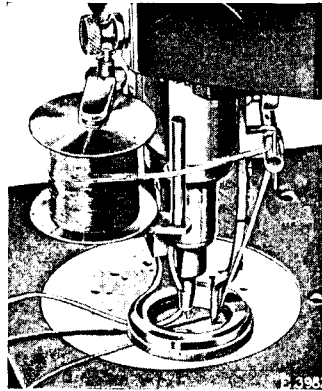
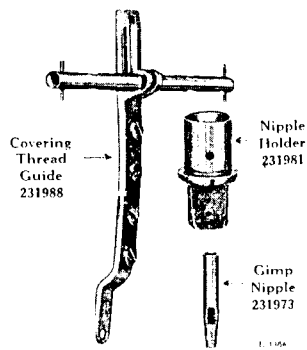

Fig. 28. Machine Threaded and Adjusted for Feather Stitching
Fig. 29. Fittings for Feather Stitching
Remove the presser foot, needle plate and nipple, as instructed on page 9. In place of the nipple, use nipple holder 231981 (Fig. 29) and fasten it in the machine by means of the set screw, as shown in Fig. 28, so that the opening in the holder will be at the **back** when the handle (K, Fig. 10) is at the **front**.
Having selected the gimp nipple to fit the size of filler cord to be used, fasten it in position in the nipple holder by means of the set screw, as shown in Fig. 28, so that the opening in the nipple is toward the **back** of the machine when the handle (K) is at the **front**. When it is desired to make a very long stitch, use large presser foot 231918 in place of the smaller presser foot 231986. Then replace the presser foot and needle plate.
Attach thread guide 231988 (Fig. 29) to the machine and thread and adjust it as instructed on pages 15, 16 and 17.